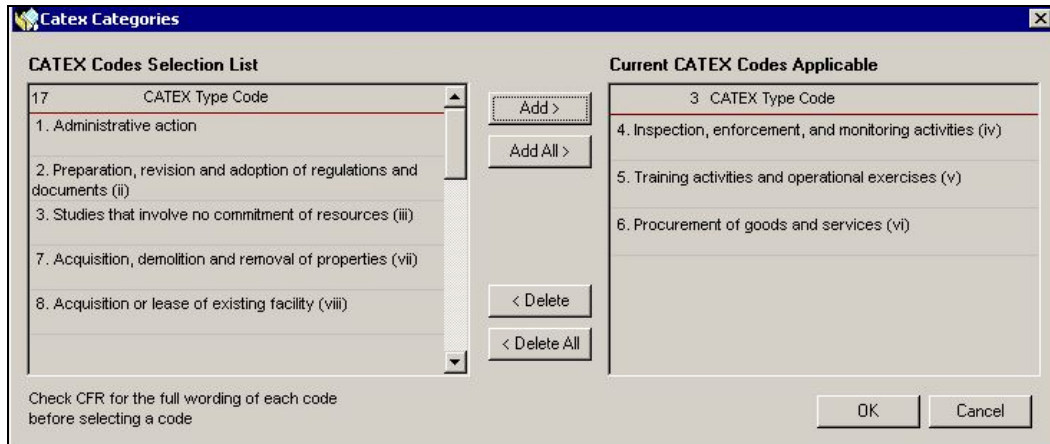

Figure 7-48: CATEX Categories Added
- f. The CATEX Type Codes are now displayed on the right side (Figure 7-48).